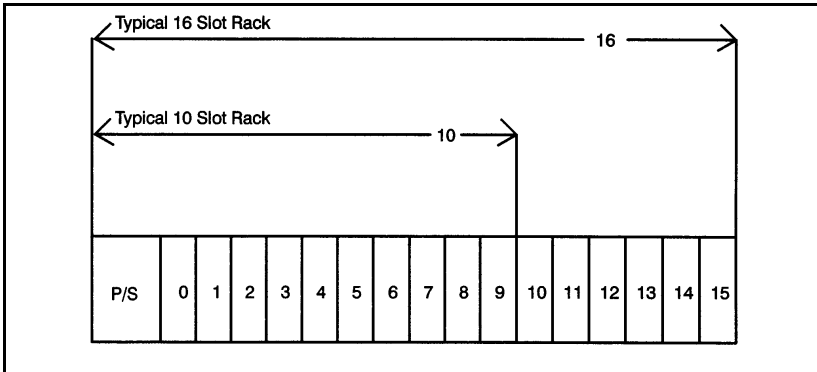

Figure 3.1 – Rack Slot Numbers
- Step 3. Insert the module into the desired slot in the rack. Refer to figure 3.1.